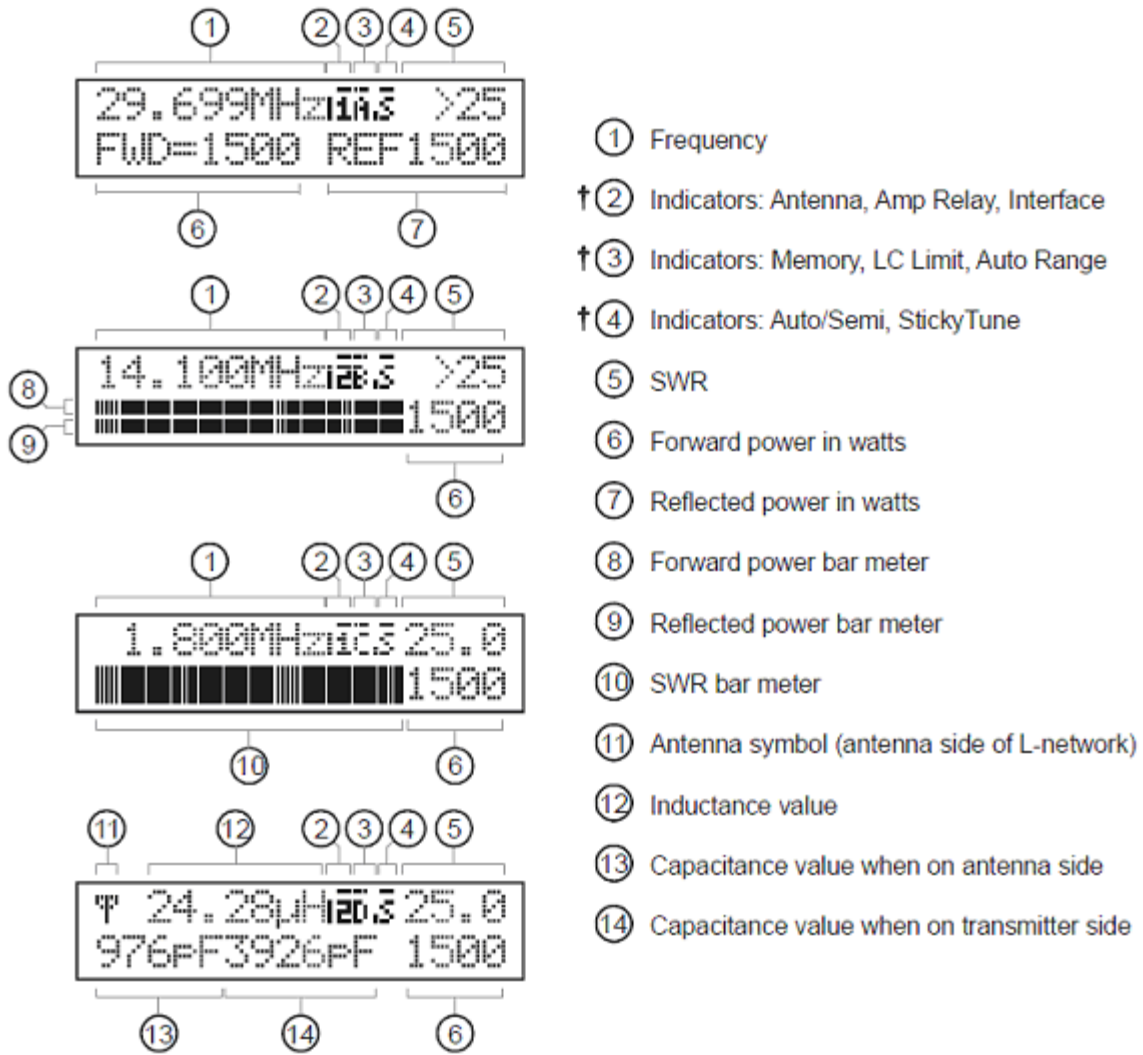
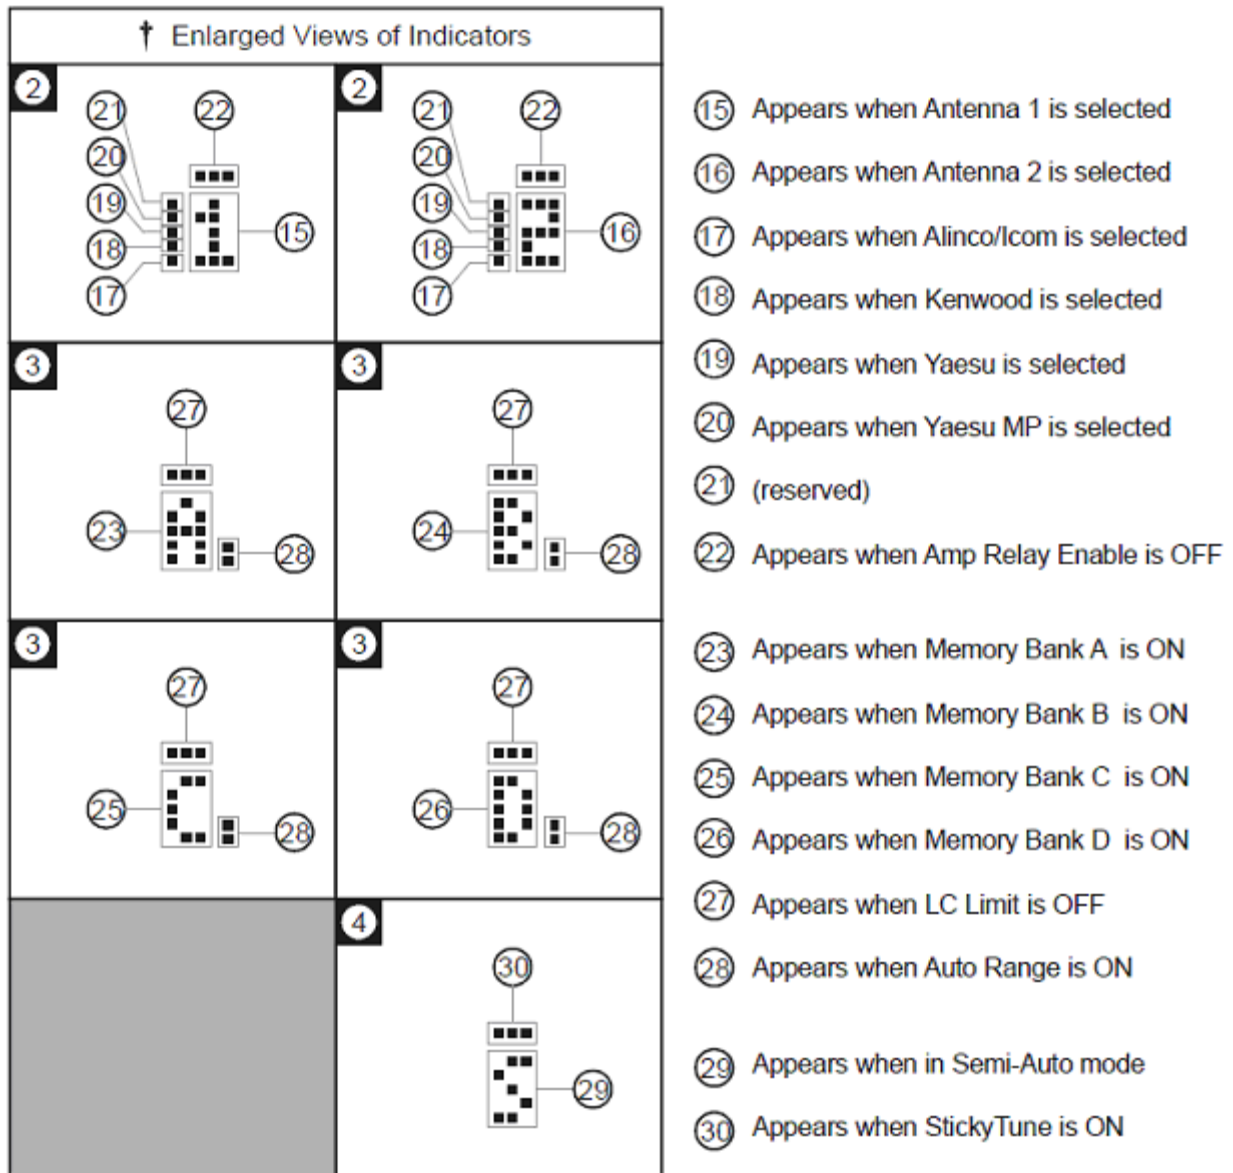

Figure 6 LCD Display
Figure 7 Display Tuner Indicators Enlarged
Press and hold the [MODE] button for two seconds to enter the setup mode (see below). Various tuner indicators are shown on all four main menus: Antenna banks 1/2, IntelliTune™, Radio Interface, Memory, LC Limit, Auto Range, Auto/Semi, and StickyTune™. Refer to Figures 6 and 7 for details on the displayed information.
Various tuner indicators are shown on the main menus to indicate tuner status. Refer to Figures 6 and 7 for locations of these indicators. The number enclosed within ( ) is the item number of Figure 7.
- Antenna Bank: A small “1” appears to indicate antenna bank 1 is selected (15); a small “2” appears to indicate antenna bank 2 is selected (16).
- Radio Interface: One dot appears on the left side of the Antenna indicator to indicate the selected radio interface (17-21). Refer to Figure 7 below. The Radio Interface function is not used in this tuner.
- Amp Relay Enable: When Amp Relay Enable is OFF, a bar appears on top of the Antenna indicator (22). The Amp Relay function is not used in this tuner.
- LC Limit: When LC Limit is OFF, a bar appears on top of the Memory indicator (27).
- Auto Range: When Auto Range is ON, a two-dot vertical bar segment appears on the lower left corner of the Memory indicator (28).
- Auto/Semi: A small “S” appears to indicate semi-automatic mode (29); nothing appears to indicate automatic mode.
- *StickyTune*: When *StickyTune*™ is ON, a bar appears on top of the Auto/Semi indicator (30).
The upper limits of inductance (L) and capacitance (C) are factory-limited according to frequency and maximum power rating; i.e., higher frequencies need less inductance and less capacitance when the L-network is properly tuned. Pressing [C-UP] and/or [L-UP] allows capacitance and inductance to be increased only to these limits. When a selected capacitance or inductance is higher than its allowed limit, and the frequency is changed, that selection is automatically reduced to the value of its limit. These limits are used to prevent matching of extreme load impedance outside the tuner's specification, which may result in excess voltage and/or current across the tuner's components. This setting is not stored in nonvolatile memory and reverts back to the default when the tuner power is cycled. Refer to Figures 6 and 7 for the on-screen LC Limit indicator. If this feature is turned OFF, it will be re-set to ON whenever power is cycled. Default is ON.